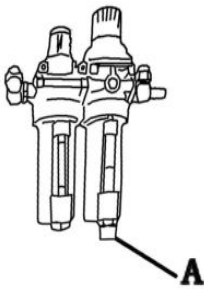

Fig.17.
- Usually Check the air filter, push the draining valve of water/oil separator to drain the water. And add lubricated oil to protect cylinders on time. (Fig.17.)